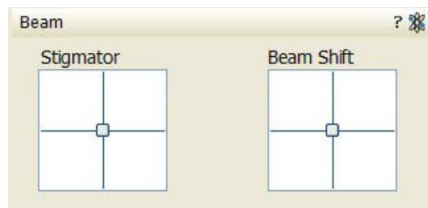

Figure 12
3. Zero beam shift for both beams in **Beam Control** page: right click Beam Shift square in **Beam** tab and select **Zero** (Figure 12).